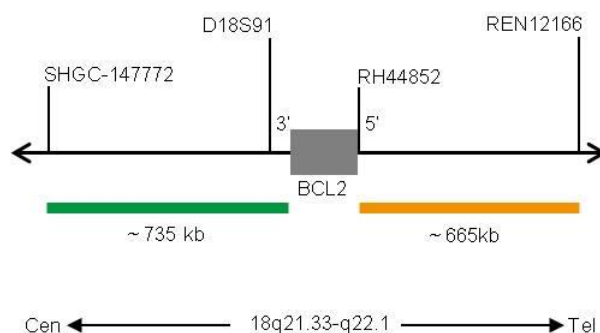
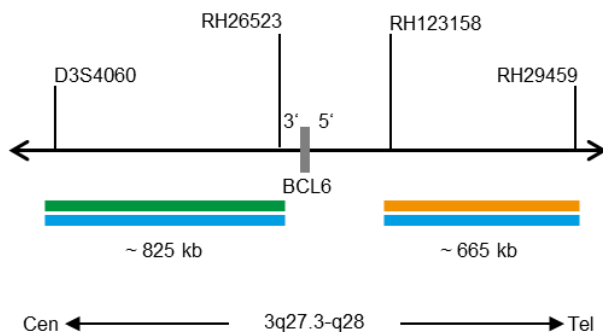

Fig. 1: SPEC BCL2 Probe map (not to scale)
Fig. 2: SPEC BCL6 Probe map (not to scale)
- ZyGreen (excitation 503 nm/emission 528 nm) labeled polynucleotides (~10.0 ng/ μ l), which target sequences mapping in 18q21.33* (chr18:60,046,152-60,779,138) proximal to the BCL2 breakpoint region and in 3q27.3* (chr3:186,578,337-187,403,834) proximal to the BCL6 breakpoint region (see Fig. 1 & Fig. 2)
- ZyOrange (excitation 547 nm/emission at 572 nm) labeled polynucleotides (~2.5 ng/ μ l), which target sequences mapping in 18q21.33-q22.1* (chr18:60,994,528-61,658,503) distal to the BCL2 breakpoint region and in 3q27.3-q28* (chr3:187,744,962-188,411,425) distal to the BCL6 breakpoint region (see Fig. 1 & Fig. 2)
- ZyBlue (excitation 418 nm/emission 467 nm) labeled polynucleotides, (~70.0 ng/ μ l), which target sequences mapping in 3q27.3* (chr3:186,578,337-187,403,834) proximal to the BCL6 breakpoint region co-localizing with the green-labeled BCL6 polynucleotides and in 3q27.3-q28* (chr3:187,744,962-188,411,425) distal to the BCL6 breakpoint region co-localizing with the orange-labeled BCL6 polynucleotides (see Fig. 2)